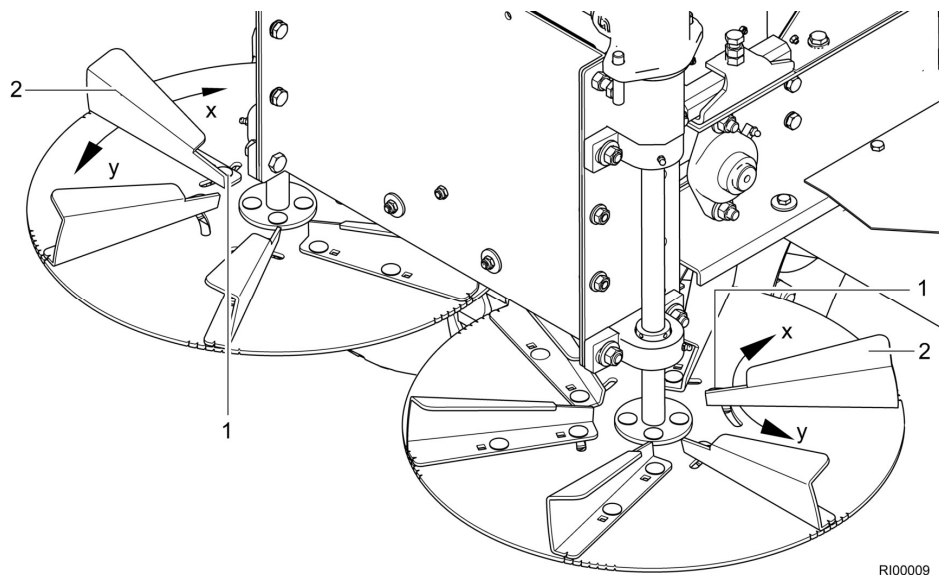

Fig. 42 Adjusting the throwing vanes
1. Loosen the bolted connections (Fig. 42/1) in the slotted holes of every second throwing blade (Fig. 42/2). To do this, loosen the nuts of the bolted connections underneath the spreader discs.
2. Swivel every second throwing blade (Fig. 42/2) in direction "X".
3. Tighten the bolted connections (Fig. 42/1) again. To do this, tighten the nuts of the bolted connections underneath the spreader discs.
2. Swivel every second throwing blade (Fig. 42/2) in direction "Y".